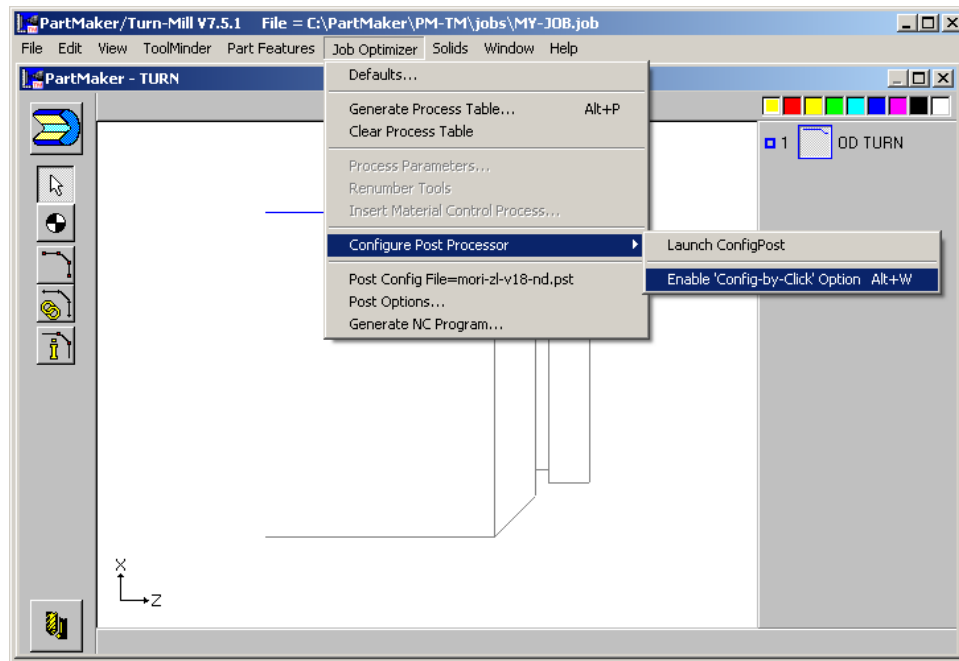

Figure 2: Enabling 'Config-by-Click'® from the Menu bar
- b From Job Optimizer, select Configure Post Processor and choose the Enable 'Config-by-Click'® Option as shown in Figure 2.